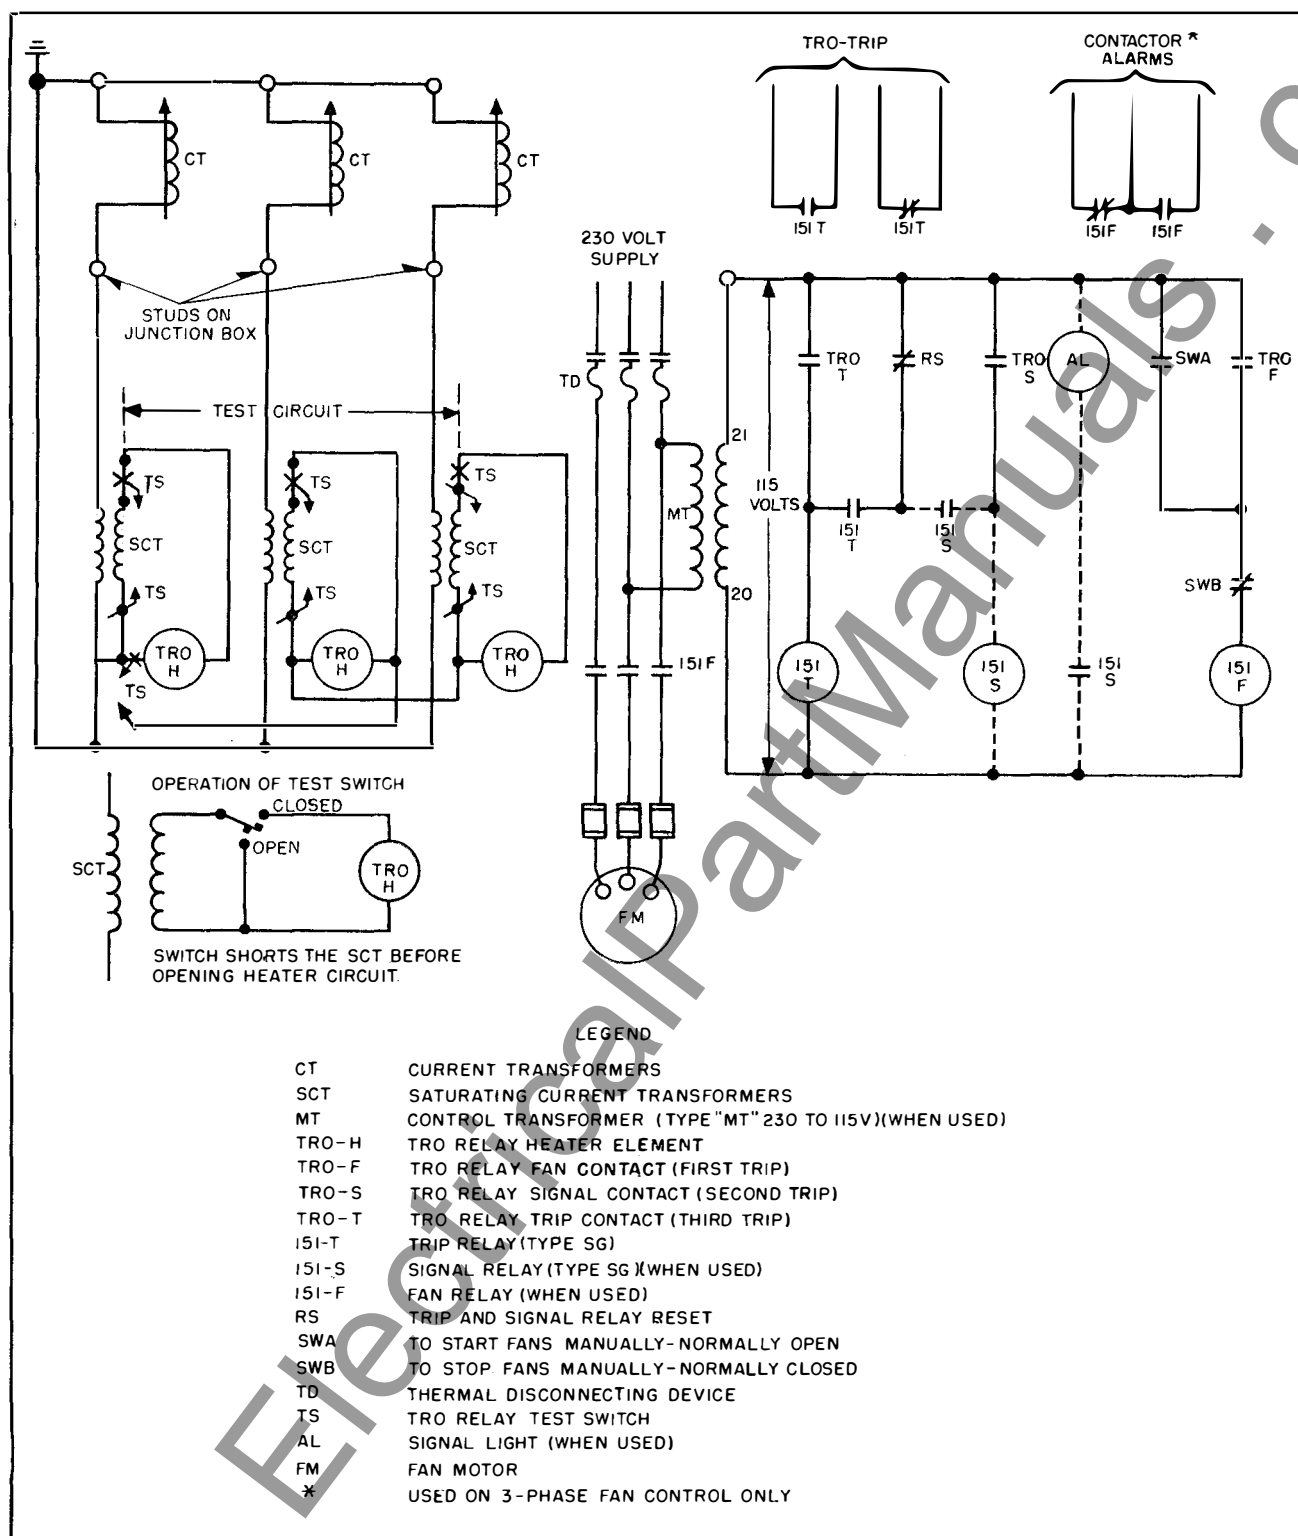

FIG. 5. Typical Connections of TRO Relay.
Fig. 5 shows a typical connection for this relay as used with three-phase air blast fan motors. When the TRO relay is used without fan control, 230 volts alternating current must be connected to the control transformer primary, MT, when it is supplied, or 115 volts alternating current across 20-21 when the control transformer is not supplied. This diagram is for a three-phase application using one TRO relay with a three-element heater. Relays can be supplied with one or three-element heaters. Current is supplied to the heater coils from three 5-ampere secondary current transformers (mounted in the transformer tank) through three small multi-ratio saturating current transformers mounted in the control cabinet. The saturating current transformer limits the current to the heater on a short-circuit and hence retards the heating to give a time delay characteristic to the relay and allow other protective devices to operate first on overcurrent.
second switch, the signal switch, closes. It is optional with the user how the signal switch is used in the alarm circuit. Fig. 5 shows in dotted lines a standard scheme used on unit equipment before the advent of the dial-equipped relay. This signal switch energizes a signal relay which in turn energizes a warning light (AL). The signal relay is self-sealing so that the light will not go out until the reset switch is opened. The dial indicators on all standard TRO relays are adjusted at the factory to read 100% thermal load when this signal switch closes. This indicates to the operator that the transformer insulation is entering the zone of moderate (under 1% per overload) loss of life and enables him to better judge the transformer's thermal capabilities.
A knife-switch having short-circuiting jaws (See Fig. 5.) is provided on the control panel for the heater element. Opening the knife-switch short-circuits the saturating current transformer secondary and isolates the heater coil. In the case of three-